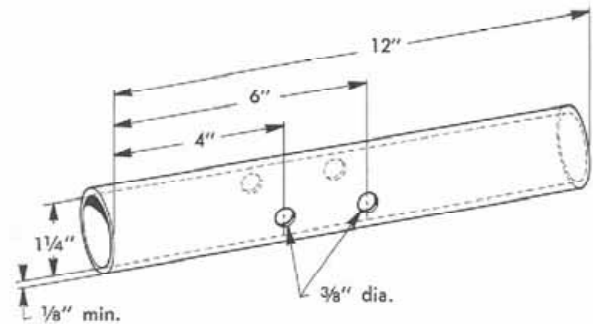

Figure 12:
15. Fabricate three (3) lift stand extensions as shown (Fig. 12), using one and one-fourth inch (1-1/4") inside diameter iron tubing with a MINIMUM wall thickness of one-eighth of an inch (1/8").